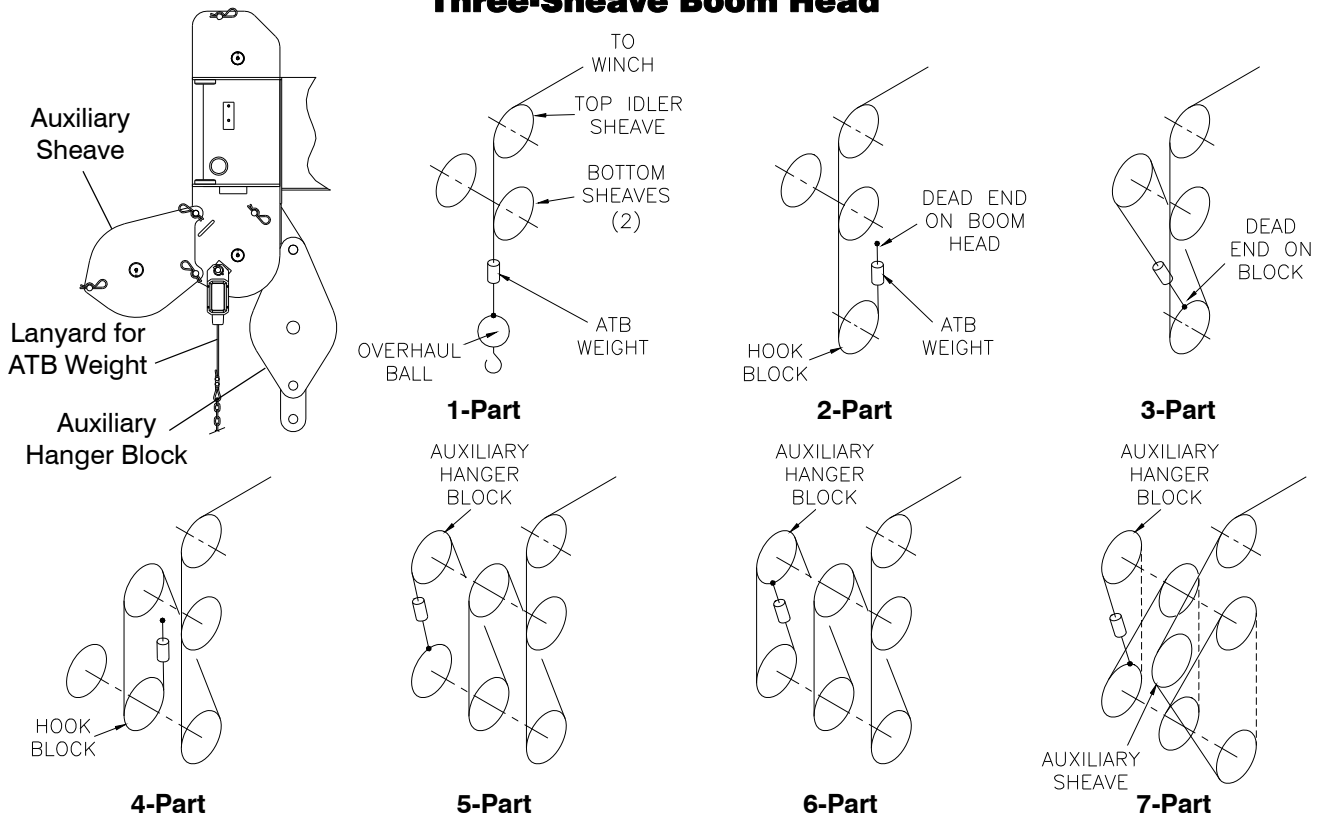

Figure 2-7 Load Line Reeving — Three-Sheave Boom Head
Reeving diagrams for the wire rope are shown in Figures 2-7 and 2-8. The number of parts of line used depends on the load to be lifted. Refer to the Capacity Chart for your specific crane to determine reeving requirements for the various loads that can be lifted.
- Check that the ATB counterweight is connected to the limit switch and the counterweight is installed on the correct part of the line. Refer to Figure 2-7 or 2-8.